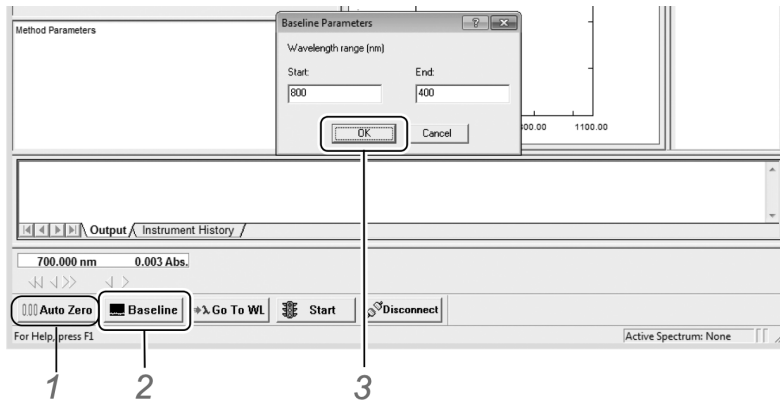
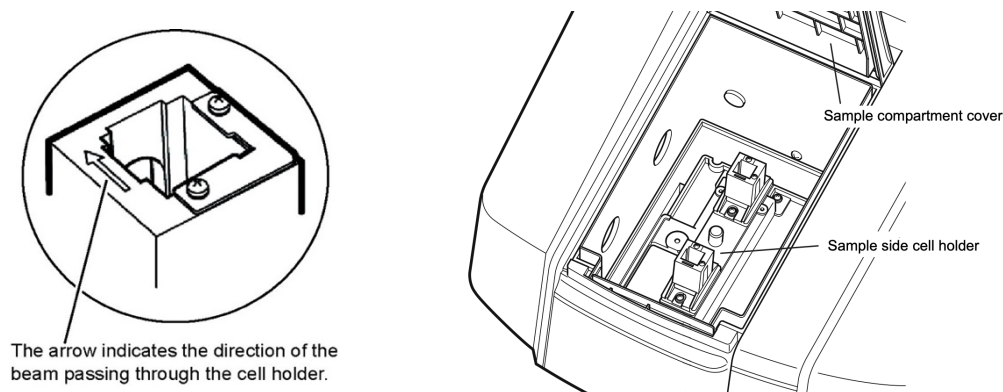

Figure 5. Auto zero and baseline.
Figure 6. Setting the sample.
- (1) Open the sample compartment cover of the spectrophotometer and insert two cuvettes of solvent (blanks) in the cell holders (Fig.6). Click on **[Auto zero]** to zero the instrument at the starting wavelength (Fig.5).
- (2) Click **[Baseline]** on the **[Instrument Control Button]** bar to zero the baseline over the spectrum region of interest. The **[Baseline Parameters]** window appears.
- (3) Verify that the displayed correction range is the same as the wavelength range specified in the **[Spectrum Method]** and click the **[OK]** button.